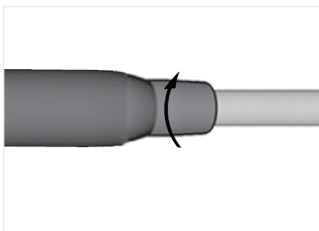

FIG. 3
4. Holding the motor fully screw the hose sleeve to the rear motor connection FIG. 3.